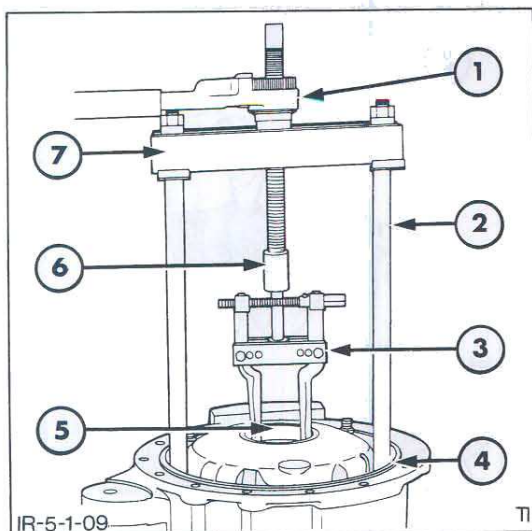

Figure 9
- b. Remove the differential bearing cup, together with the shims, from the inner disc brake housing, Figure 9.